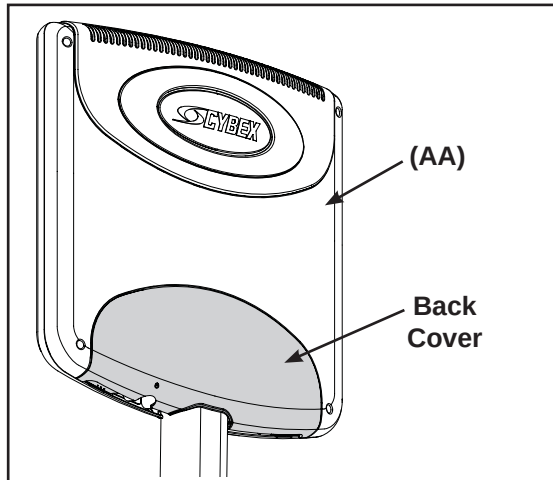

Figure 23
- H. Install the back cover to the monitor (AA). See Figure 23.